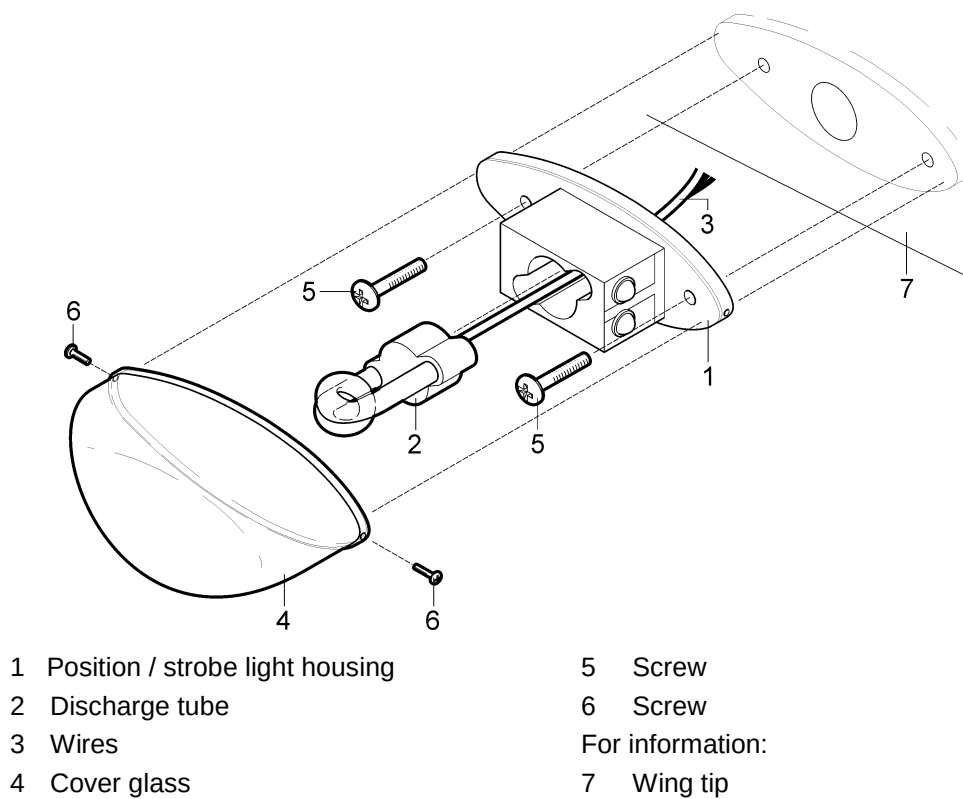

Fig. 11-6: Exchange of the strobe light discharge tube
(b) Unscrew the screws (6, Fig. 11-6) and remove the cover glass (4).
- Unscrew the screws (6, Fig. 11-6) and remove the cover glass (4).
- (c) Carefully remove the discharge tube (2), disconnect wires (3).
- (e) Set the cover glass (4) to the light housing (1) and fasten it with screws (6).